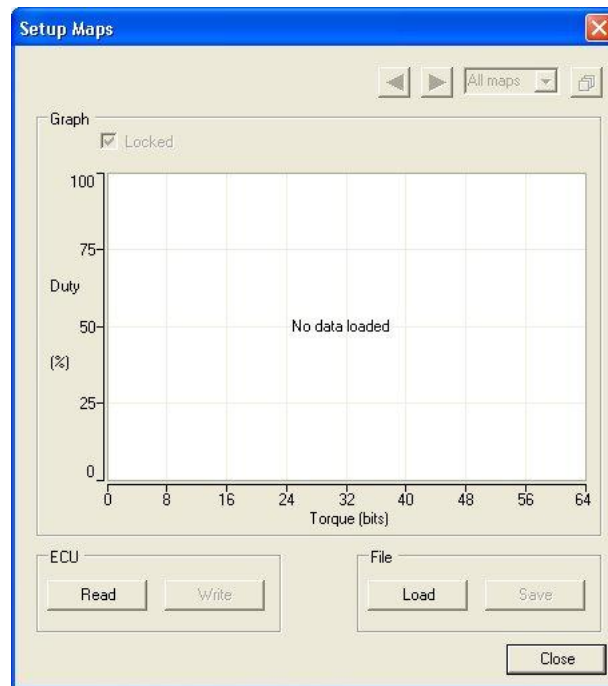

Figure 6 - Setup Maps Dialog (No Maps)
1. Select the **Setup** ➔ **Maps** option from the main menu. The Setup Maps dialog (Figure 6) is displayed.